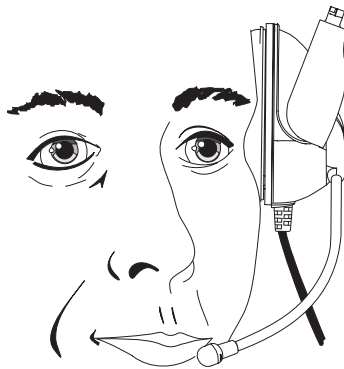

Figure 3: Microphone Placement
4. For best noise canceling, position the microphone as close to the mouth as possible and speak in a normal voice. (See Figure 3)